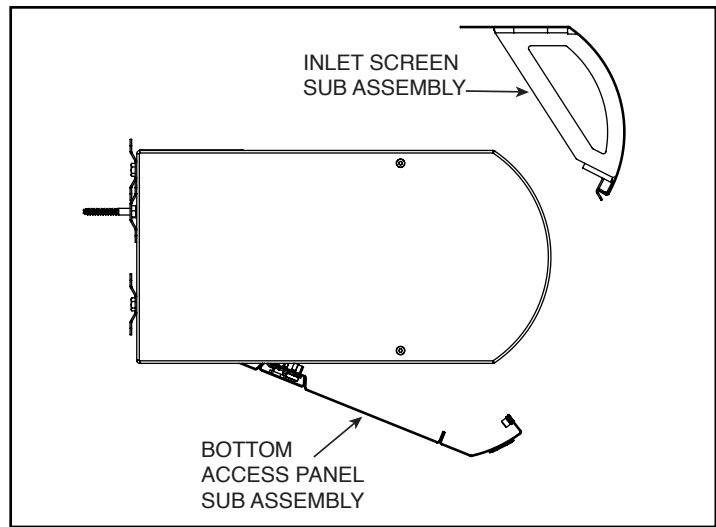

Figure 10 - Bottom Access Cover (BAC) Removal
4. Re-install the cover and intake screen. **See Figure 10.**